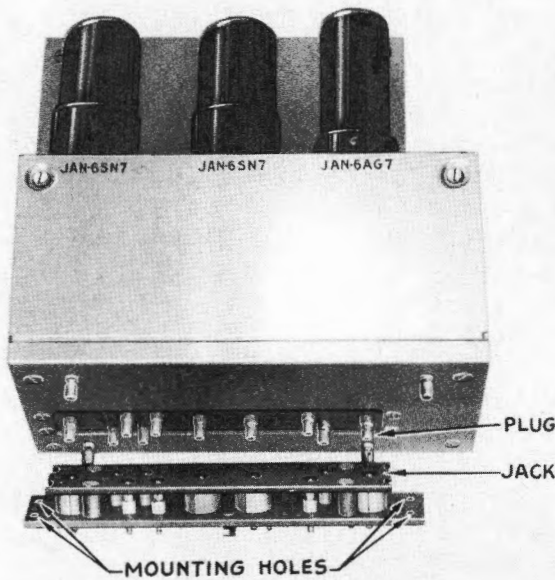

Figure 5-20. Unit Plug and Jack Connectors—Jack Removed from Chassis
**b. INSTRUCTIONS FOR REMOVING AND INSTALLING THE UNITS.**—The six detachable units of Indicator ID-59/APA-11 make electrical connection with the main chassis through plugs on the bottom of the units and jacks on the chassis. Figure 5-20 shows a plug connector on the bottom of a unit and a jack connector into which the unit plugs. Except for the saw-tooth oscillator all units plug in from the top of the chassis; the saw-tooth oscillator plugs in from the bottom. The jack connector shown in figure 5-20 is removed from the chassis in order to show its mounting holes. If required, when installing a replacement unit, the pack connector may be shifted about slightly when the mounting screws are loosened. Procedure is to loosen mounting screws to plug unit in carefully shifting jack so that mounting studs center in mounting holes and to tighten the jack mounting screws. Generally this adjustment will not be necessary.